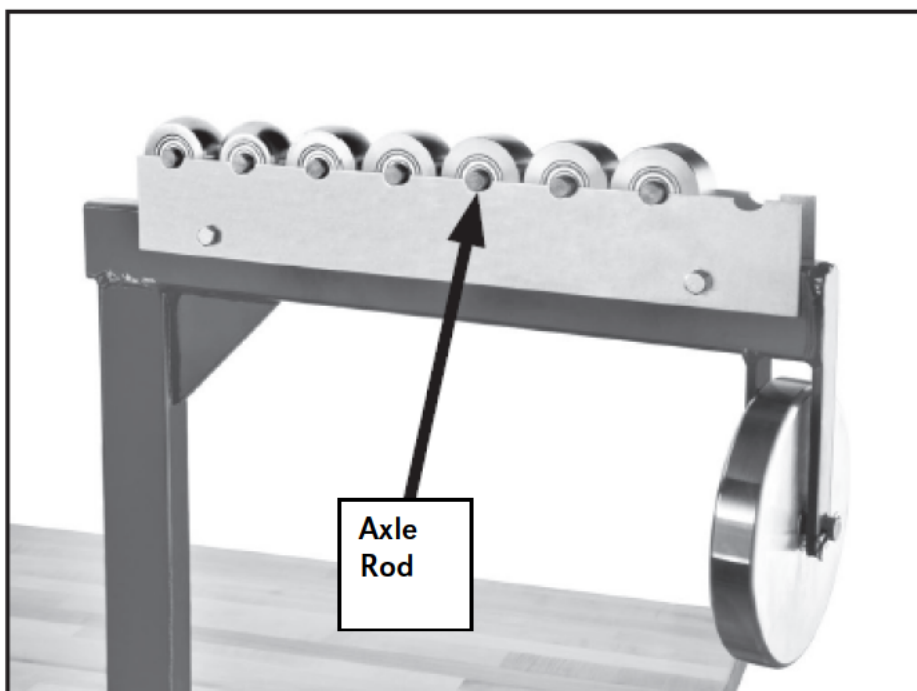

Figure 10. Lower wheel assemblies on wheel storage racks.
7. Insert a lower wheel axle rod into each lower wheel, then place the assemblies on the wheel storage racks (see Figure 10).